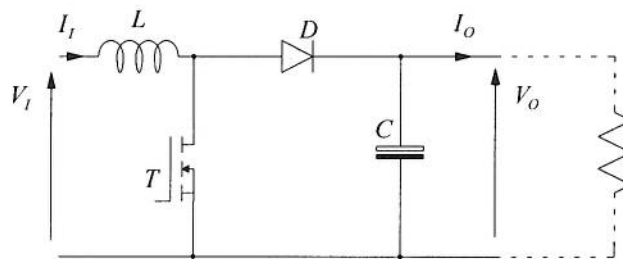

Figure 3.1 A Boost SMPS
3. Figure 3.1 shows the circuit of a boost switch-mode power supply (SMPS). It is to be operated in continuous conduction mode with an input voltage of 9.0 V and output voltage of 20 V. It will be required to process a maximum throughput power of 36 W and have an output voltage ripple (measured peak to peak) which is to be no greater than 75 mV. The turn-on and turn-off energy losses of the MOSFET operated at 4 A are 5  $\mu$ J and 7  $\mu$ J respectively. The on-state resistance of the MOSFET is 0.1  $\Omega$ .